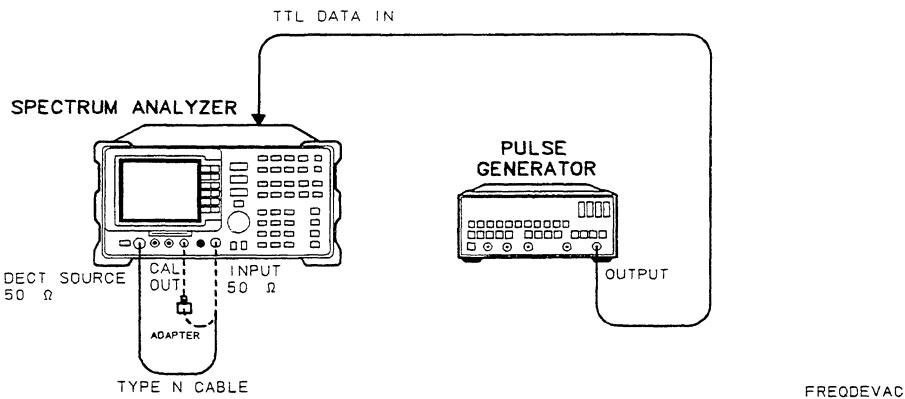

Figure 9-12. Frequency Deviation Accuracy Test Setup
1. Connect the 23 cm BNC cable between the DECT SOURCE $50\ \Omega$ and INPUT $50\ \Omega$ connectors on the spectrum analyzer, using the N(m) to BNC(f) adapters. Refer to Figure 9-12.
7. Connect a BNC cable between the CAL OUT and INPUT 50Ω connectors on the spectrum analyzer. Refer to Figure 9-12.
- Connect the 23 cm BNC cable between the DECT SOURCE 50 Ω and INPUT 50 Ω connectors on the spectrum analyzer, using the N(m) to BNC(f) adapters. Refer to Figure 9-12.